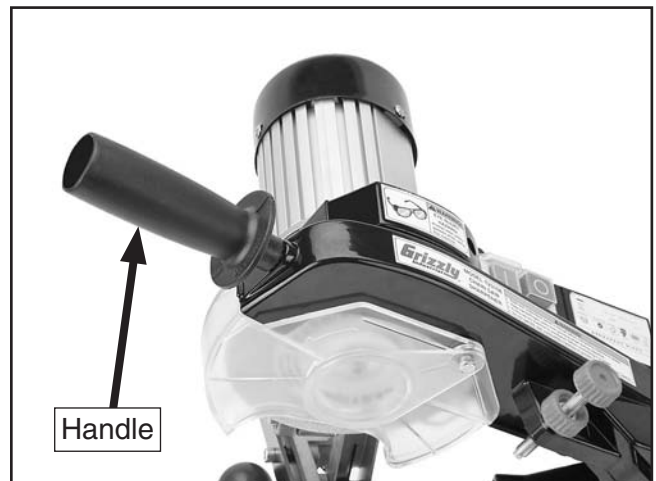

Figure 11. Swing arm handle attached.
4. Thread the handle onto the end of the swing arm, as shown in **Figure 11**.